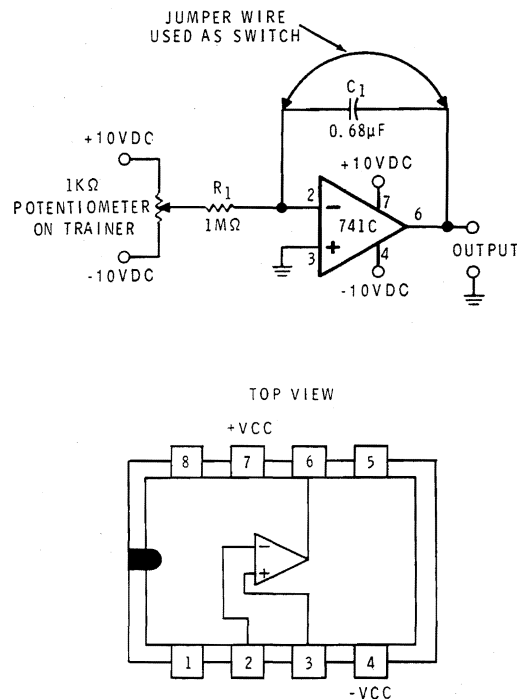

Figure 6-69
8. Turn on the Trainer and adjust the (+) and (-) power supply voltage controls for 10 VDC. Turn off the Trainer. Construct the circuit shown in Figure 6-69. Notice that  $C_1$  is initially shorted by a jumper wire.